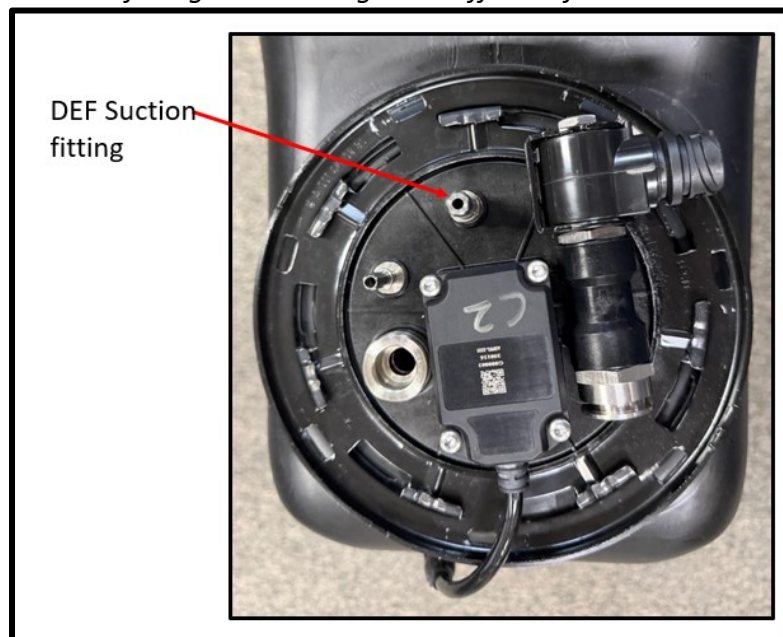

Figure 2.9 DEF Suction Fitting Location
- 7) Install a DEF suction hose to the DEF suction fitting per OEM service procedure. The below **Figure 2.9** shows the suction fitting location.